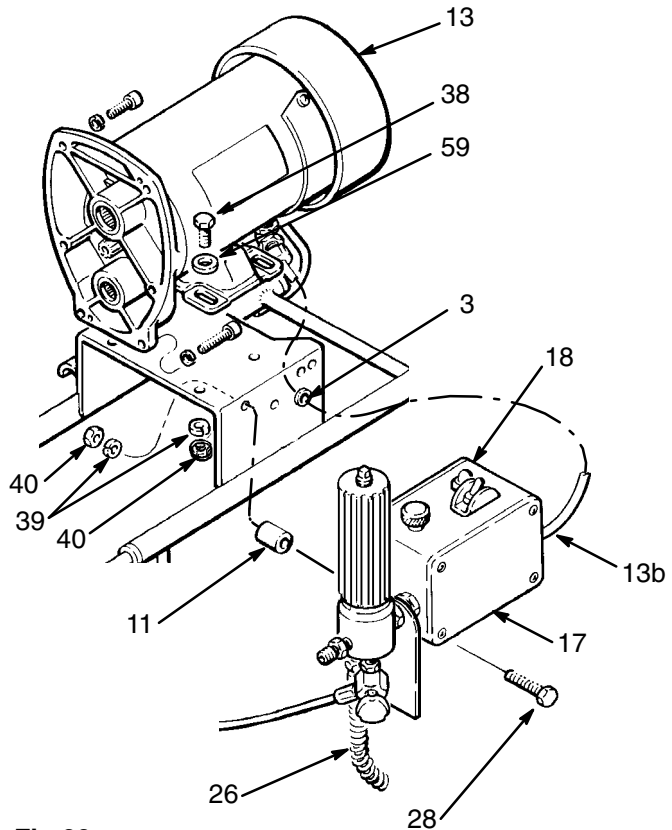

Fig 20
**NOTE:** Refer to Fig 20 and 21.
1. Disconnect the hose (26) from the pump.
3. Remove the pressure control cover (4). See Fig 20.